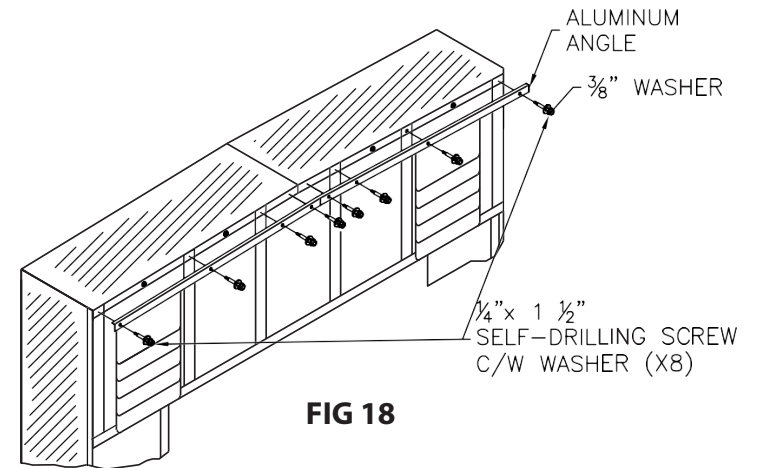

FIG 18
- b. Re-attach Aluminum Angle to front edge of Head Frame (Figure 18).